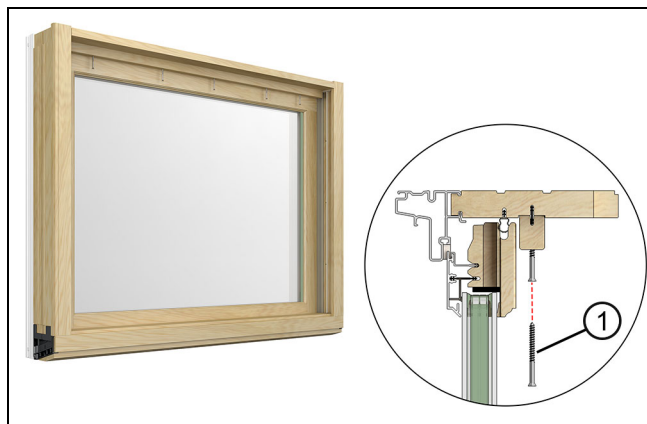

Figure 60
7. For IZ3 Transoms, drive #6 x 1 5/8" trim head screws through the parting stop and into the head jamb. Space the screws 2-4" (51-102) from the ends and 6-8" (152-203) on center. See Figure 60.